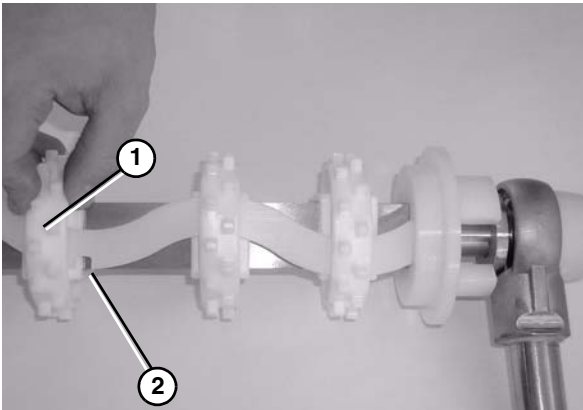

Figure 76
4. Install the remaining sprockets (**Figure 76, item 1**) making sure to position each sprocket with the next available notch (**Figure 76, item 2**) in the sprocket alignment bar.